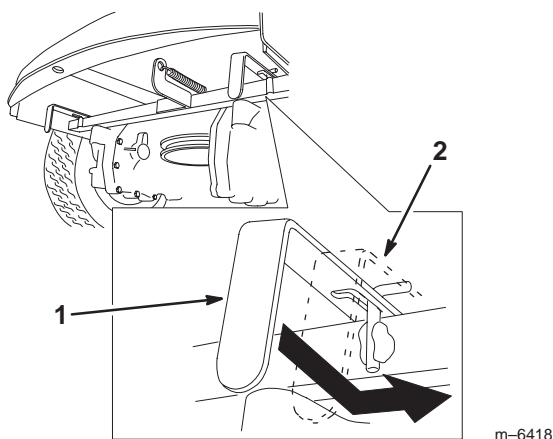

Figure 14
3. Push each bypass lever forward and then push them out (Fig. 14).
Push the two bypass levers towards the inside and then pull them rearward (Fig. 14).